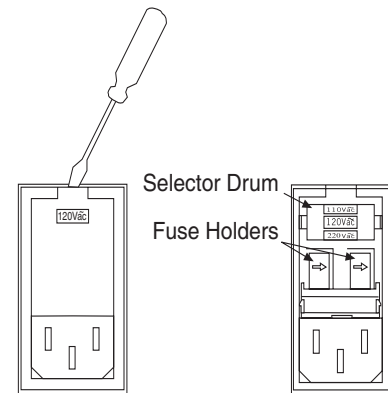

Figure 31. Power Input Module
1. As shown in Figure 31, place the flat side of a flat bladed screwdriver parallel to the rear of the Controller and behind the small tab at the top of the power input module, and twist the screwdriver slowly but firmly to pop the module open.